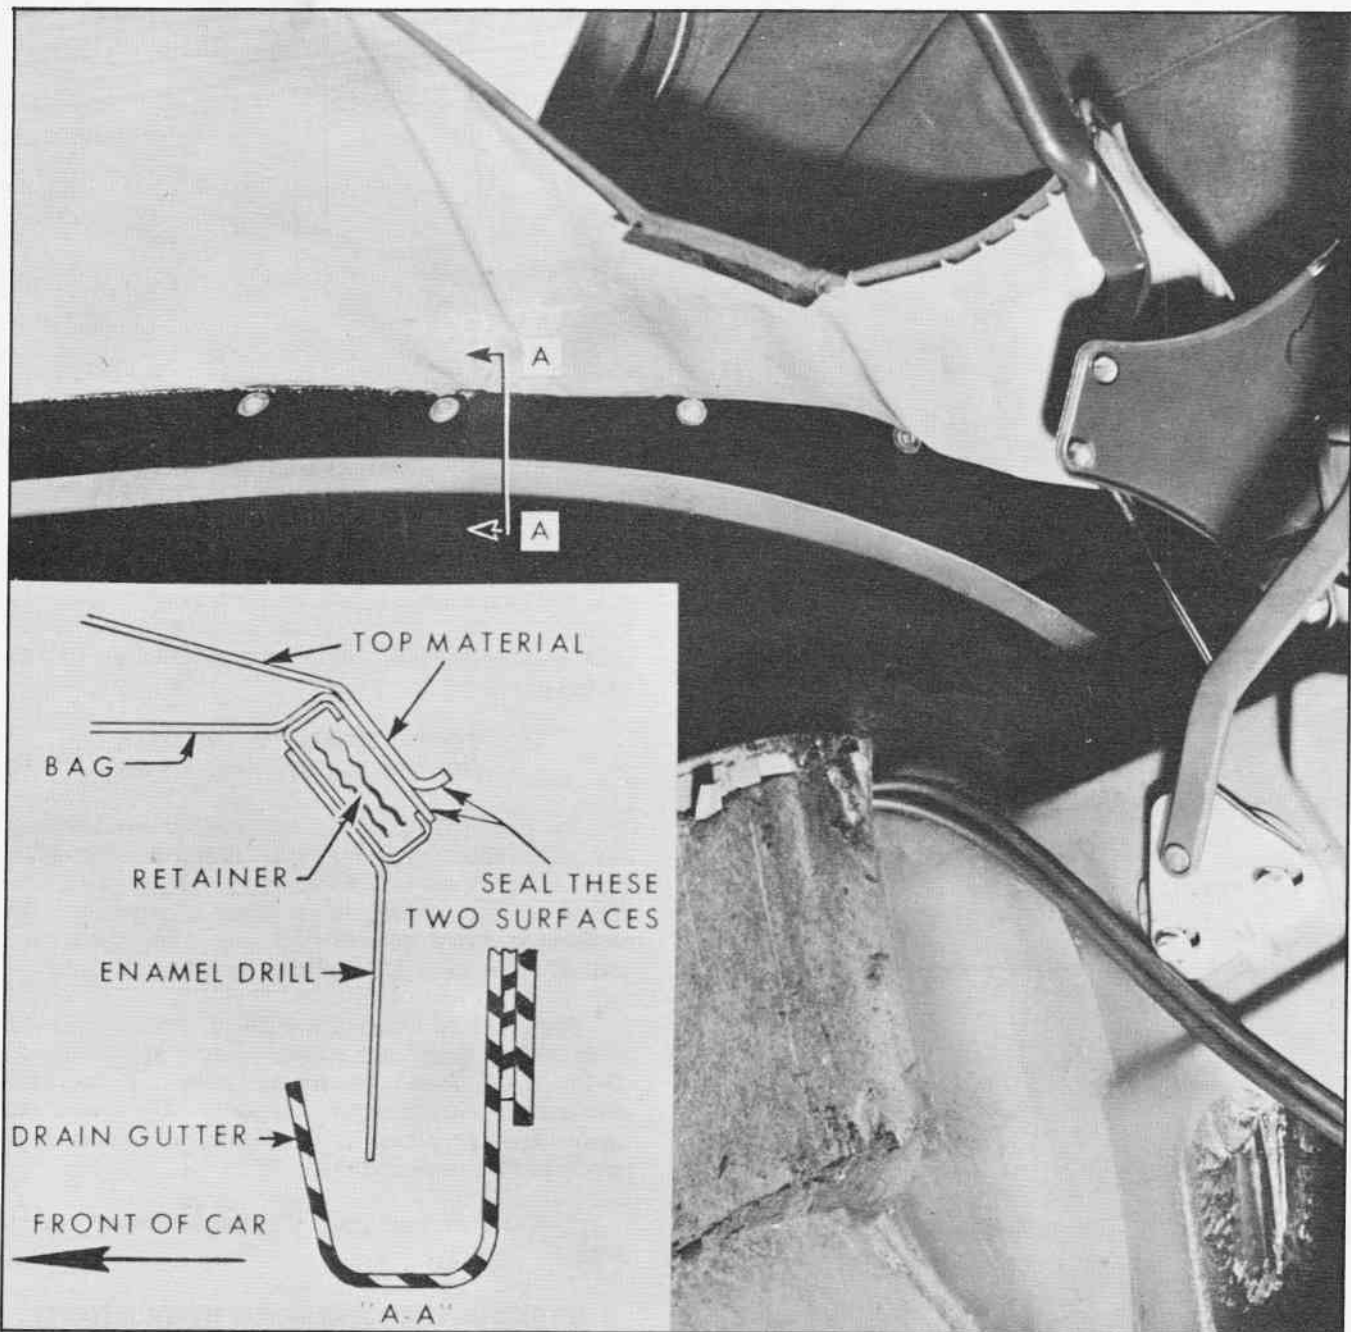

Fig. 11 Convertible Top Water Wicking Repair
4. If there is wicking of top material or bag, seal trimmed edges of material with an approved convertible top sealer as shown in Fig. 11. The inside surface of the top material should be waterproofed along entire length of trimmed edge. Be sure that edges of stay pad along retainer are thoroughly sealed.
5. a. If water overshoots gutter below bottom edge of folding top, cement cotton side of a piece of enamel drill to inside (metal) surface of retainers with an approved weatherstrip cement. The top edge of enamel drill should not extend above top edge of retainers and should be of sufficient width to extend into gutter for entire length of gutter. (See step "c" and see Fig. 11.)